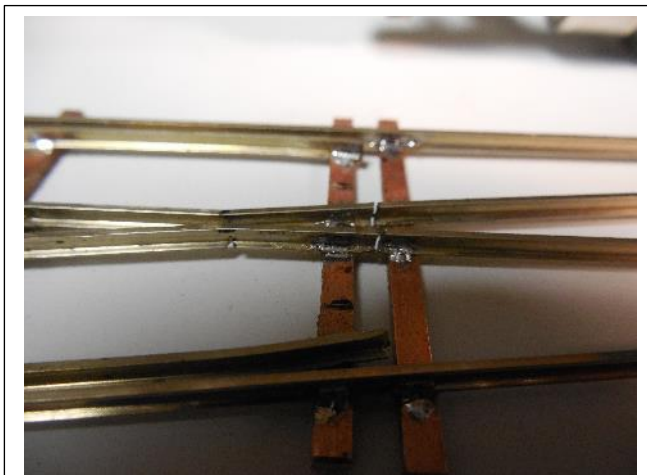

Fig 23 – Insulating gaps cut on both ends of the frog
11. Cutting Gaps. 2 insulation gaps are required on each side of Frog. Using jeweler saw, cut gaps (fig 23).